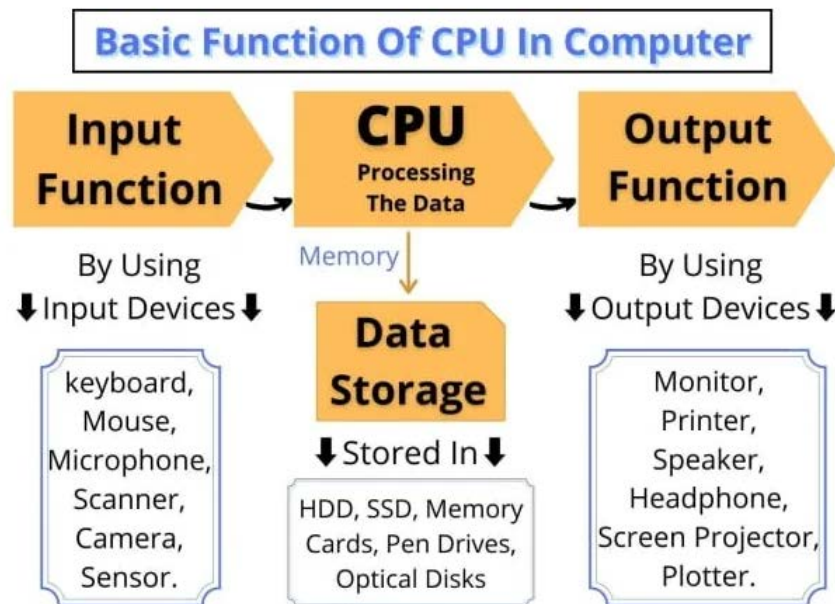

Figure 9.28 : Functions of CPU
1. The CPU receives the data when the computer inputs the data through input devices such as a keyboard or mouse. Figure 9.28. shows the the basic function of CPU.